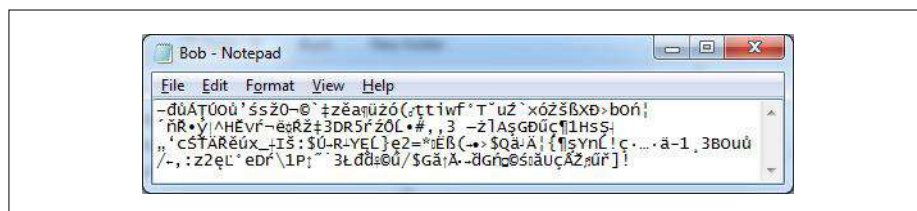
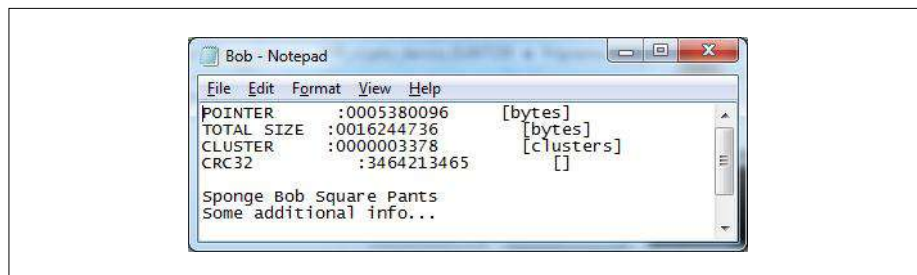

Figure 7. The file BOB.MIR is now also encrypted.
Figure 8. The updated status file BOB.STT invariably remains in plaintext.
7. Alice now removes her SD card from the OTP Crypto Shield and puts it in her computer. Playing MUSIC.MP3 won't work anymore because it is encrypted. Opening BOB.MIR will look something like **Figure 7** (it is now also encrypted). BOB.STT is still plaintext, but now looks like **Figure 8**. The POINTER has advanced, and so has the CLUSTER number; the CRC32 value therefore has changed too. The